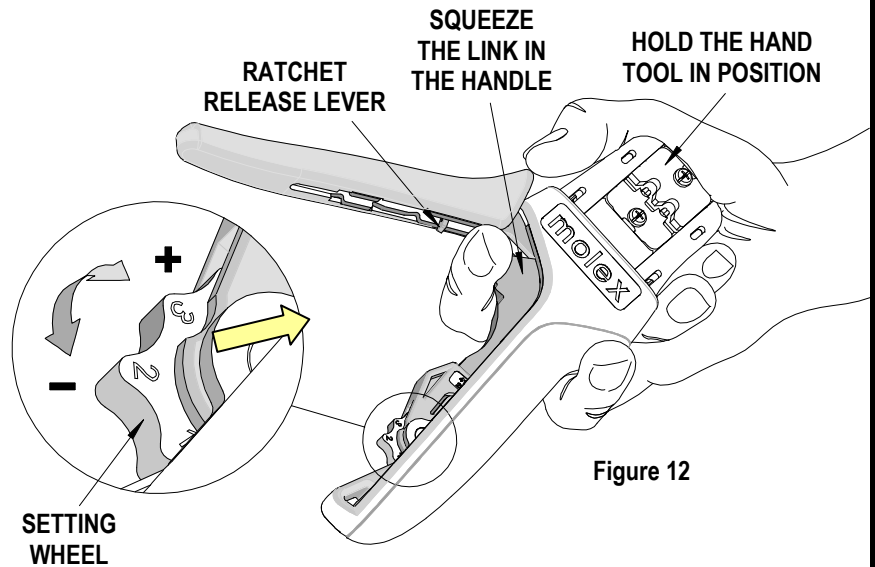

Figure 12
How to Adjust Tool Preload (See Figure 12)
1. Hold the hand tool in the palm of your hand as shown in Figure 12. Using the index finger squeeze the link towards the top of the hand tool frame. This will release the preload adjustment wheel.